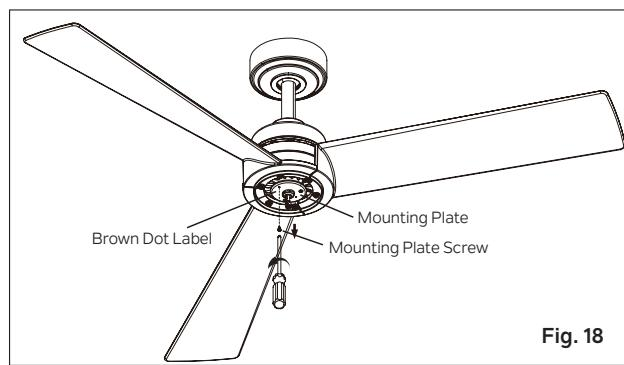

Fig. 18
Step 1. Remove the mounting plate screw that is marked with a brown dot label from the mounting plate. Retain mounting plate screw. Loosen the other two mounting plate screws (do not remove). **(Fig. 18)**